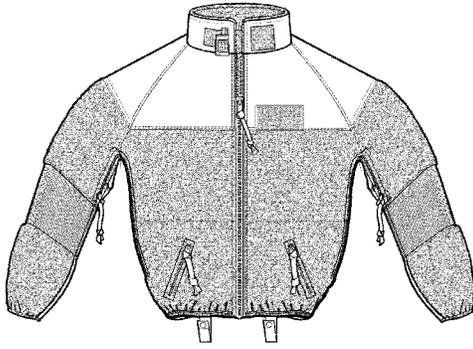
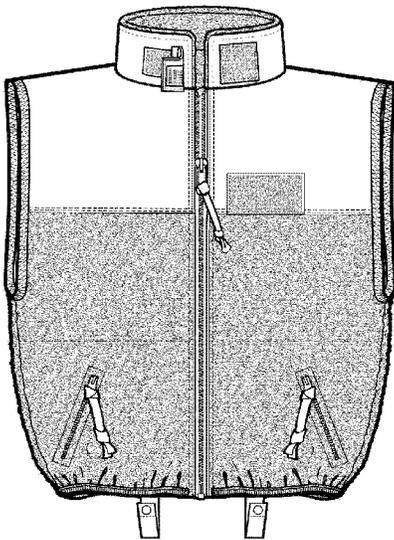

Figure 3-46. Fleece Jacket
Figure 3-47. Fleece Vest
5. The Fleece Jacket (figure 3-46) and Vest (figure 3-47) is designed to be worn over the Silkweight midweight and/or heavyweight garments, alone or under the shell outer jacket on cold/wet days. The garments provide warmth without weight and blocks 95% of the wind while still providing outstanding breathability. The garments are water-repellent and shed rain and snow; dries quickly. The vest provides warmth to the body core on moderately cold days while still providing freedom of movement. The garments are constructed of an aramid 300 weight double fleece engineered to provide flame protection in a garment that wicks and provides comfort.